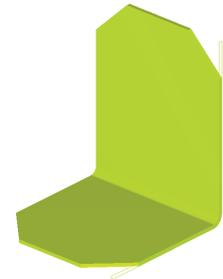

Fig. 37
Step 16. Repeat the chamfering on the bottom corners, **Fig. 37**.